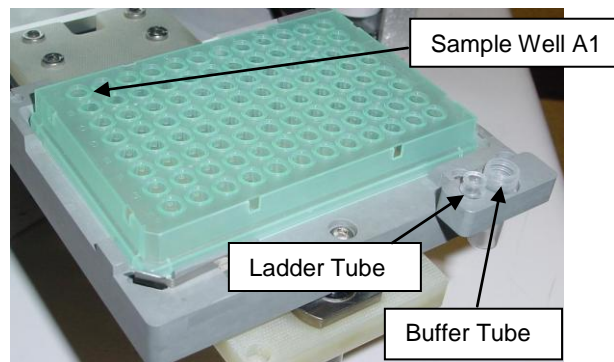

Figure 4. LabChip Dx plate tray.
2. Carefully remove the plate seal and place on the plate tray of the LabChip Dx instrument. See **Figure 4**.
2. Insert the Ladder Tube into the ladder slot on the LabChip Dx instrument plate tray. See **Figure 4**.
2. Insert the Buffer Tube into the buffer slot on the LabChip Dx instrument plate tray. See **Figure 4**.